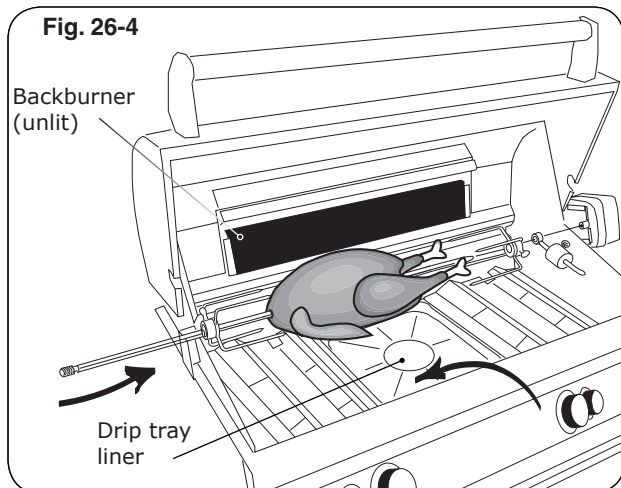

Fig. 26-4
4. Slide the left meat holder onto the rod (and tighten), the meat onto the rod and into the holder, followed by the right meat holder onto the rod and into the meat as shown in Fig. 26-4. Tighten the right meat holder. Be sure the meat is centered and balanced as well as possible.
9. To keep drippings off the burners and simplify cleanup, place Fire Magic® drip tray liners under the meat, if desired (Fig. 26-4).